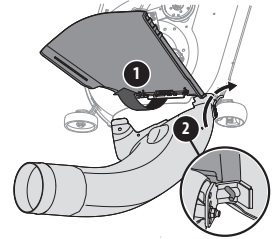

Figure 16
2. With the tractor's discharge chute raised up and held open (1), install the boot by placing the boot mounting rod into the hole provided in either your deck wheel bracket or boot mounting tab (2), as shown in Figure 16.